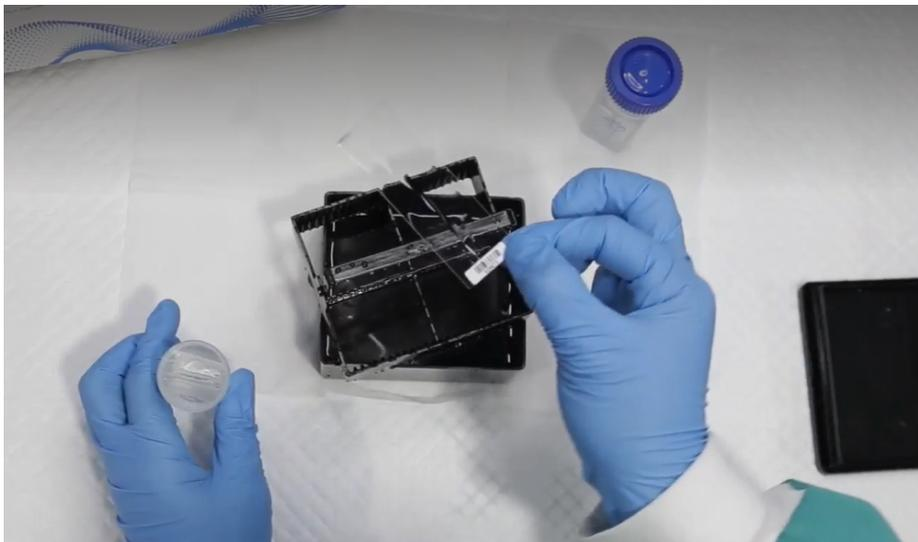

Figure 4. Placement of slides into the slide staining rack. The rack can hold up to 25 slides and has a lid (not part of the kit. BRAND™; Cat# BR471800-5EA).
2. Remove the slides from the CELLSTAR® FourWell plates and place them inside the rack of the slide staining dish (Figure 4). Place the first slide in slot 2 of the rack with the barcoded side facing towards slot 1. Submerge the rack into the slide staining dish containing 200 mL of SAB. Add the remaining slides sequentially while keeping the rack submerged to prevent slides from drying out. Ensure the slides are all in the same orientation and order.